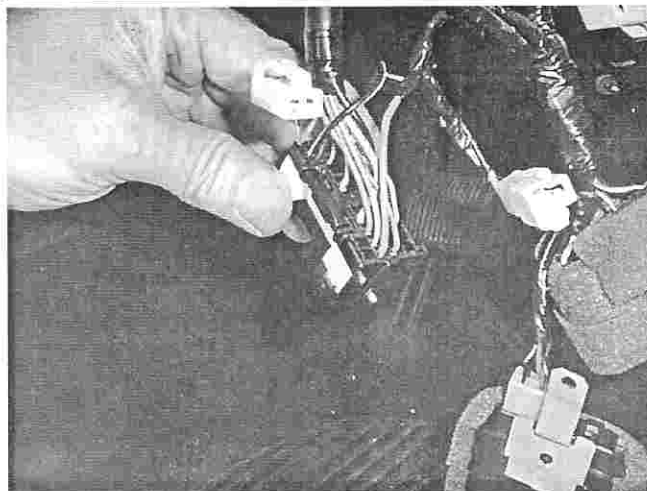

Fig 12. Orange and Black/Yellow wires installed into the supplied wiring loom & two pin connector.
19. Insert the wires removed in step 17 into the 2 pin connector housing (item 4 found in the hardware bag) Match the colors in the mating two pin connector on the supplied wiring loom. Refer Fig 12.